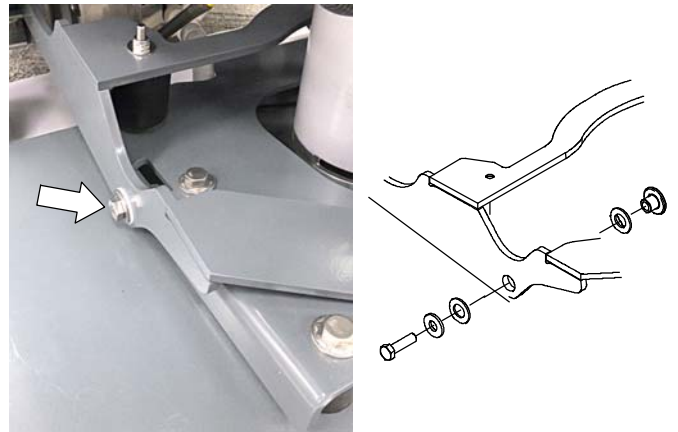

Fig. 14
15. Attach the right side of the orbital scrub head to the lift bracket using 1 flange sleeve, 2 nylon flat washers, 1 metal flat washers and 1 M8x1.125x30 hex screw (Figure 14).